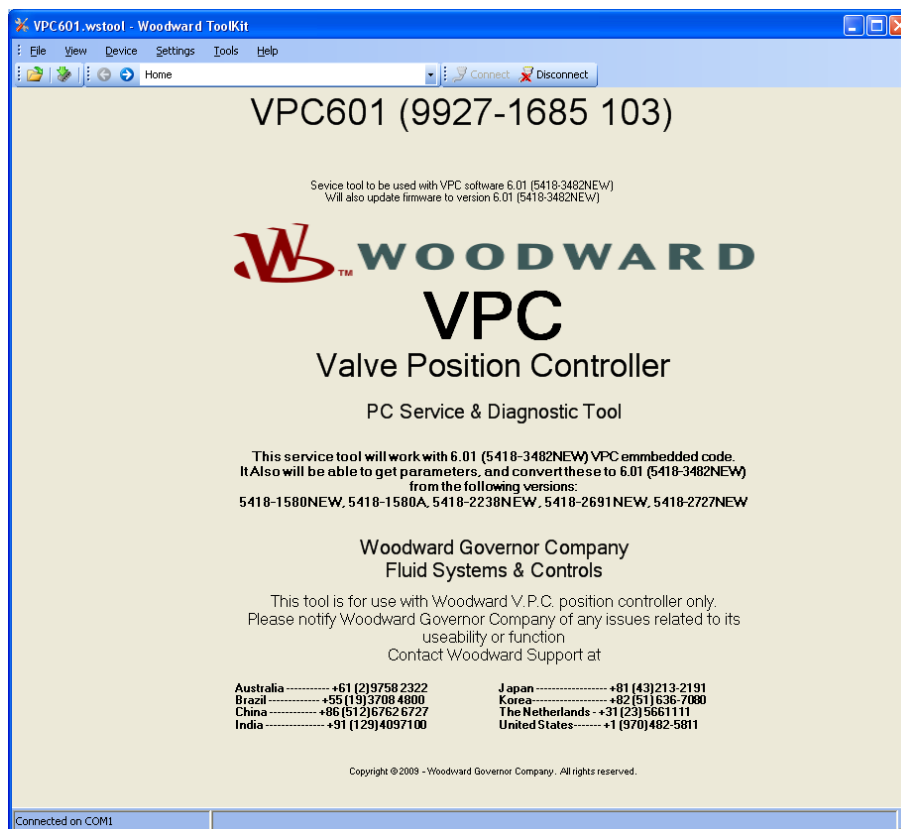

Figure 4-1. VPC Title Page
The VPC title page is displayed as the tool is launched from a PC. The title page of the VPC Service Tool contains important information about the version of the Service Tool and the Firmware suitable to be controlled and monitored using the Service Tool. It also provides information to contact Woodward Technical Support for assistance (Figure 4-1).
- Home**—Displays the service tool and its supported software (Figure 4-1).